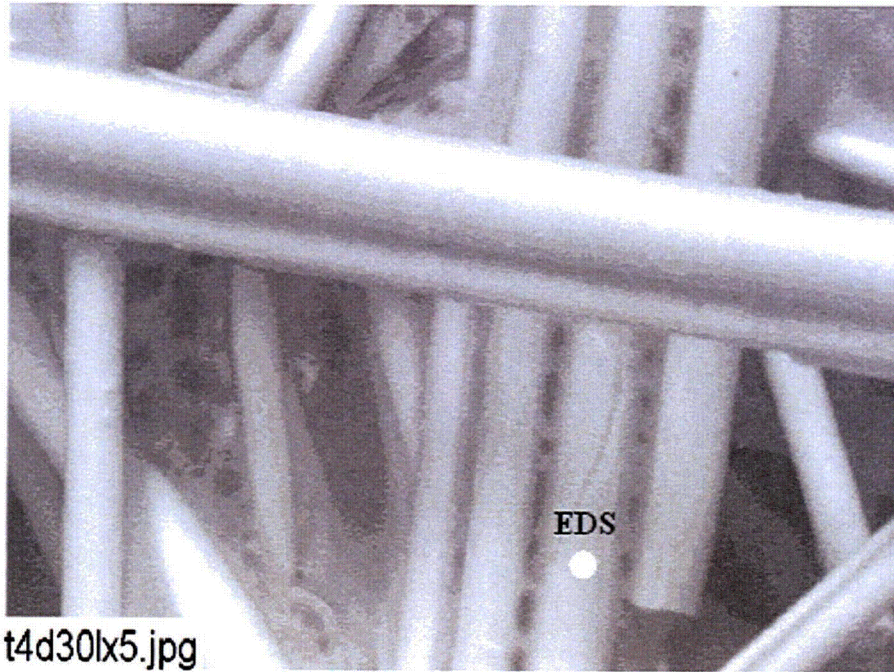
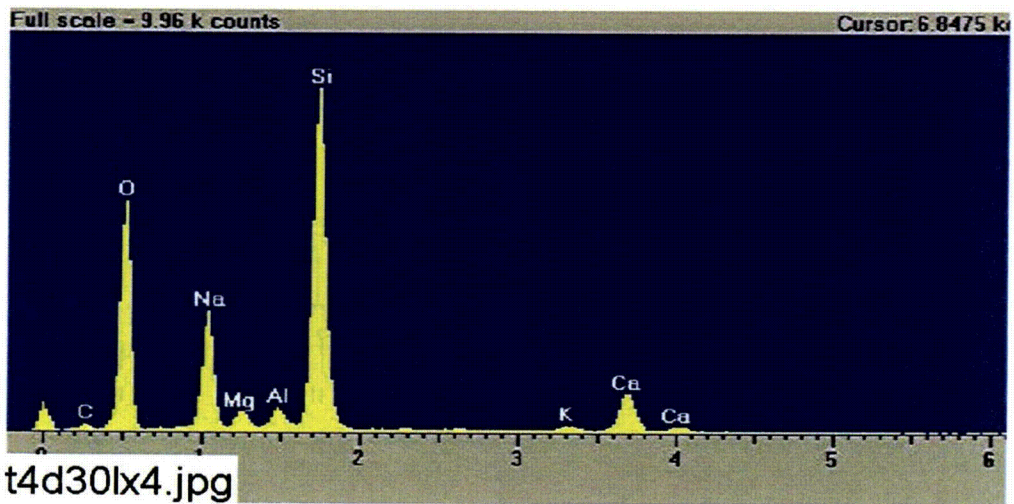

Figure C1-3. Annotated environmental SEM image magnified 1000 times for a Test #4, Day-30 exterior low-flow fiberglass sample. (t4d30lx5.jpg)
Figure C1-4. EDS counting spectrum for the spot of coating substance on fiberglass shown in Figure C1-3. (t4d30lx4.jpg)
- Figure C1-3. Annotated environmental SEM image magnified 1000 times for a Test #4, Day-30 exterior low-flow fiberglass sample. (t4d30lx5.jpg)..... C1-5
- Figure C1-4. EDS counting spectrum for the spot of coating substance on fiberglass shown in Figure C1-3. (t4d30lx4.jpg)..... C1-5